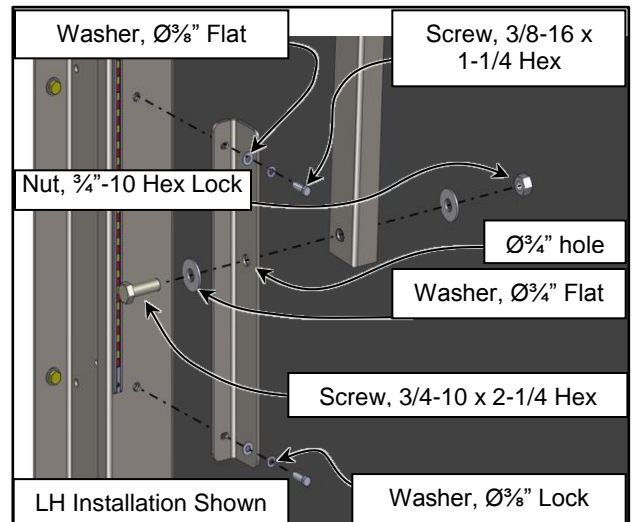

Figure 48
7. Remove and replace the $\frac{3}{8}$ -16 x 1.00 Side Column Cover screws just above and below the ends of the windbar tracks with the 1-1/4" long screws supplied with the windbar assembly kit. Also replace the $\frac{3}{4}$ " flat washers with the ones supplied in the windbar assembly kit. (See Figure 48)
8. Mount the Lower Windbar Track Brackets to the side column covers using the longer screws supplied from the kit. (See Figure 48)
10. Mark the center of the Track Bracket lower mounting hole and drill a $\frac{3}{4}$ " hole thru the Lower Mounting Brackets as shown. (See Figures 48 & 49)
11. Fasten the Windbar Track to the Lower Mount with the fasteners as shown. The threaded portion of the $\frac{3}{4}$ " bolts must be mounted toward the inside of the tracks. (See Figures 48, & 50)
3. Remove the bottom $\frac{3}{4}$ " fastener hardware from the Lower Windbar Track Mounts. (See Figure 48)
4. Guide and raise the Windbar Assembly into the Windbar Tracks. Push the Windbar and Tracks toward the door until the Tracks are in full contact with the side column covers. (See Figure 48)
5. Reinstall the $\frac{3}{4}$ " fastener hardware as shown. (See Figures 48 and 56)